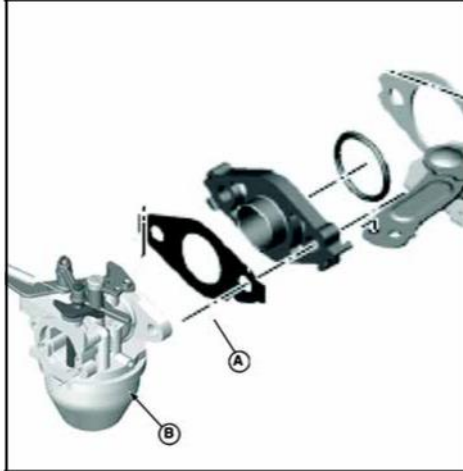

Figure 36
5. Remove gasket (A, Figure 36), spacer, and o-ring between control bracket and carburetor (B).